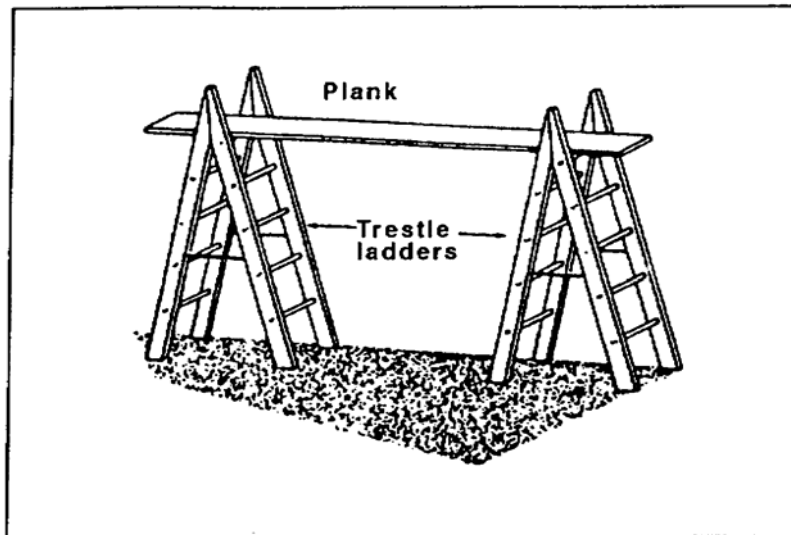

Figure 4-12. Painter's trestle
d. Trestle Ladder. A trestle ladder consists of two single ladders that are hinged at the top to form an A-shaped device. Erect two trestle ladders and extend planking or an extension platform between the rungs of the two ladders to form a painter's trestle (Figure 4-12, page 4-8).